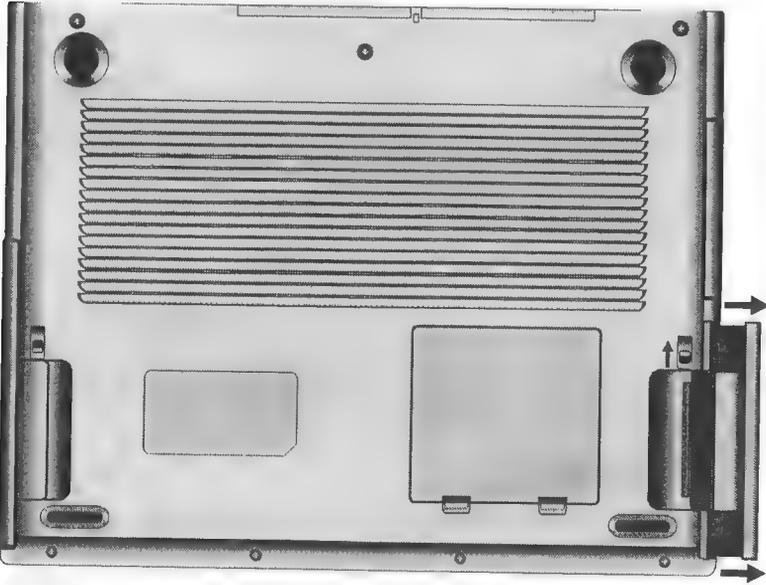

Figure 6-3: Removing and Inserting the FDD Module
The FDD module comes inserted in your Notebook. Please refer to **Figure 6-3** and the following instructions to install the FDD Drive Module into the Notebook's module bay.
2. Locate the FDD module release latch on the bottom panel of the Notebook. Please see *Figure 6-3* if you are uncertain of its location.